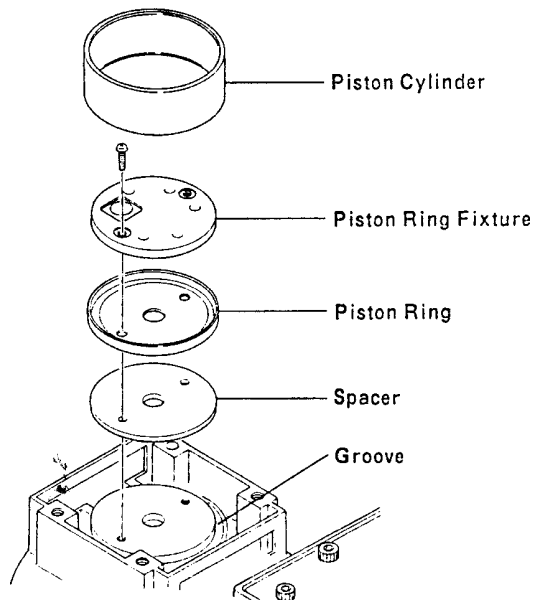

Figure 6-2-3-12 Removing Piston Ring
- (1) Reinstall the compressor head and the head cover on the compressor body using six screws (see Figure 6-2-3-9).